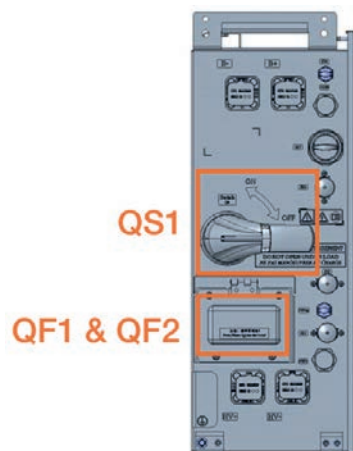

Figure 156. Location of B-Cab XXL QS Disconnect Switch
1. Check and ensure that all B-Cab XXL disconnect switches “QS” is in the ON position, refer to Figure 156.
2. **Turn on M-Cab XXL:** Turn ON main power DISC-102, this provides all auxiliary power to B-Cab XXL, C-Cab XXL and M-Cab XXL. Refer to Figure 156.
4. Turn on C-Cab XXL: Open cabinet front door, located inside is a handle to manually turn on the DC power. Refer to Figure 156 for details.